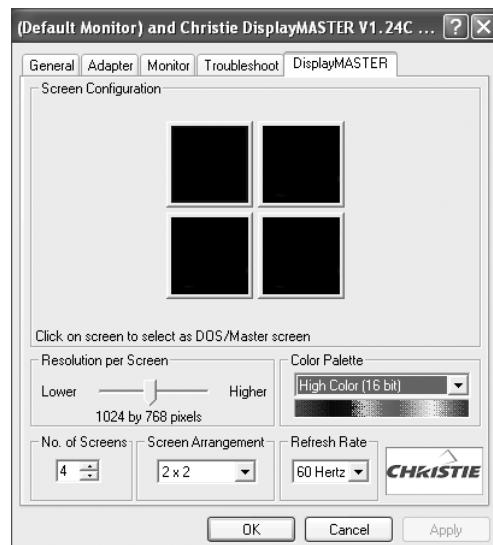

Figure 4.1. *DisplayMASTER* Window
- 4) Select the **DisplayMASTER** tab to access the *DisplayMASTER* window. (Figure 4.1.)